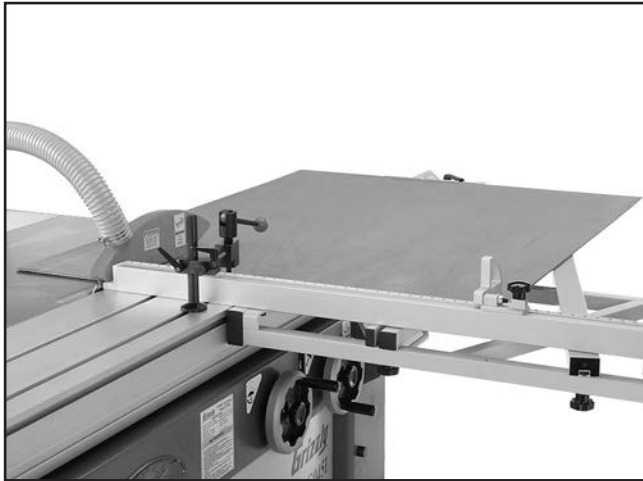

Figure 82. Rip cutting with the sliding table.
The Model G0493 has the capability of rip cutting full size panels (**Figure 82**). The sliding table removes the burden of sliding a large and heavy panel over a stationary table surface.
6. Load the workpiece onto the table saw. The set up should look similar to **Figure 82**.